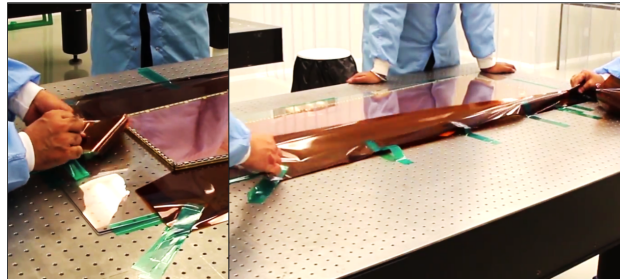

Figure 88: Removing the excess Kapton foil
Step 3: Gently remove the excess Kapton making sure not to detach the base-plate from the assembly table (Fig. 88).